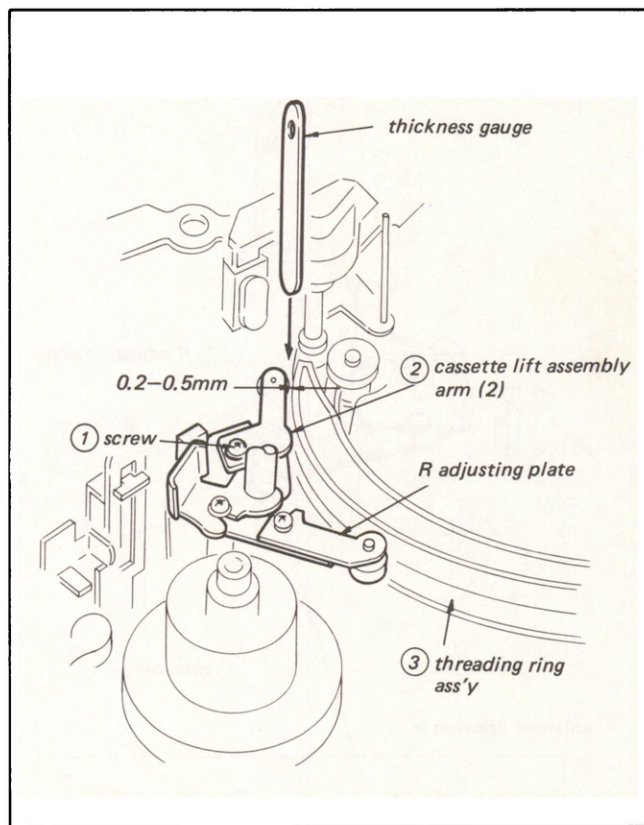

Fig. 3-21. Clearance adjustment of cassette lift assembly arm
- Since a poor adjustment of the clearance causes the condition that the cassette lift assembly arm (2) is in strong contact with the threading ring assembly (3), the threading and unthreading cannot always be performed smoothly. When the clearance is larger than the specified value, the lock of the cassette lift assembly comes loose and the cassette lift assembly lifts during the unthreading, damaging the tape.
2. Loosen screw (1) and adjust the position of the cassette lift assembly arm (2) with the thickness gauge so that the clearance between the cassette lift assembly arm (2) and the threading ring (3) satisfies the specification (0.2 mm to 0.5 mm). (See Fig. 3-21.)